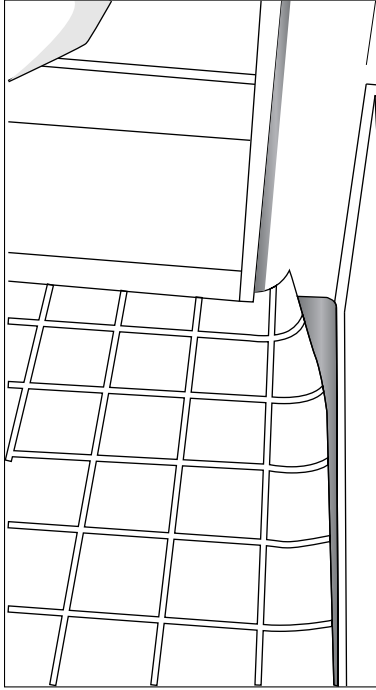

Figure 12-1:
- ✓ **Plan A:** Use a large sewing needle to perforate small bubbles (1 inch or so in diameter) at their center. Make sure you go all the way through — you're making the hole to allow trapped air to escape. Then get out the old iron, towel, and books. Lay the towel over the area and use the iron (not too hot!) to soften and flatten the vinyl. Place heavy books over the area to ensure good re-adhesion. (See Figure 12-1.)